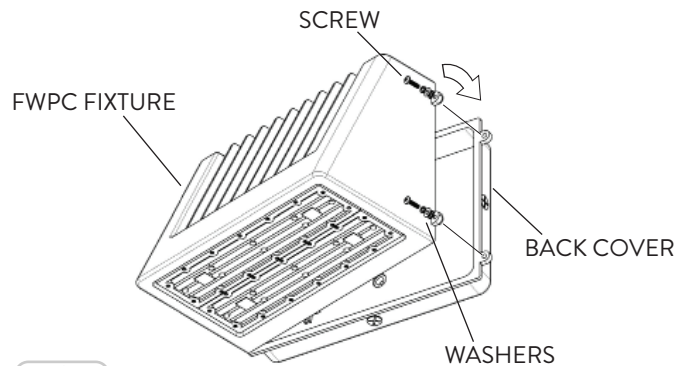
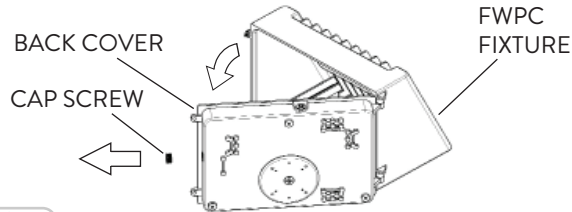
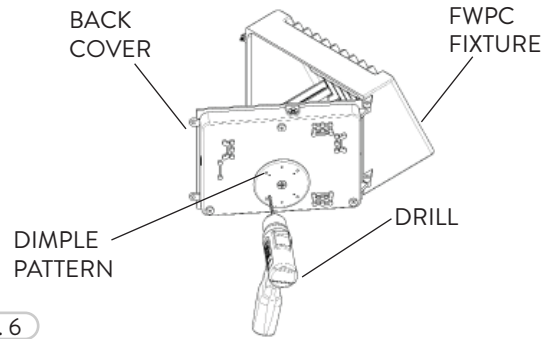

FIG. 1
FIG. 3
FIG. 6
① The Selectable CCT is equipped on selected models. If the CCT needs to be adjusted, loosen the Screws (2) at the side of the FWPC fixture and open the Back Cover. The Screws and Washers do not have to be removed (Fig. 1).
- 1 The Optional PhotoCell Control allows on/off switching the fixtures based on the amount of daylight present. Prior to installing, loosen the Screws at the side of the fixture and open the Back Cover (Refer to Fig. 1). Remove the Cap Screw at the side/top (Location based on photocell used) of the Back Cover for the PhotoCell Control (Fig. 3).
- 1 Prior to Junction Box installation, loosen the Screws (2) on the side of the FWPC fixture to open the Back Cover to have access to the fixture Wiring (Refer to Fig. 1). The Back Cover of the FWPC has indented dimple pattern that can be drilled through for the Junction Box. Align the desired Junction Box (not included) and drill holes to align with the Junction Box of your choosing (Fig. 6).